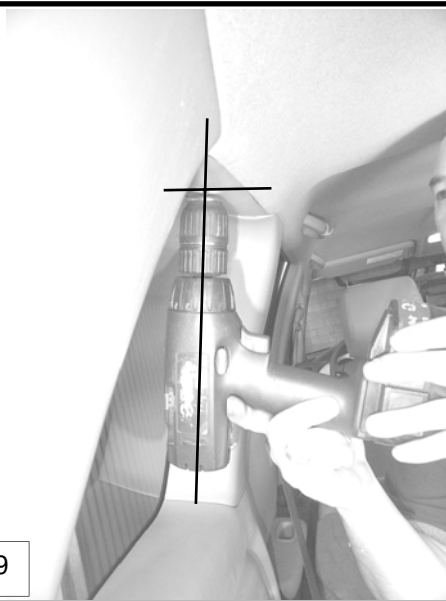

Fig 9
1. At locations marked as per page 5, pilot drill center holes to Ø5mm through plastic trim & metal panel behind. **Drill should be perpendicular to hard plastic trim as shown in Fig. 9**